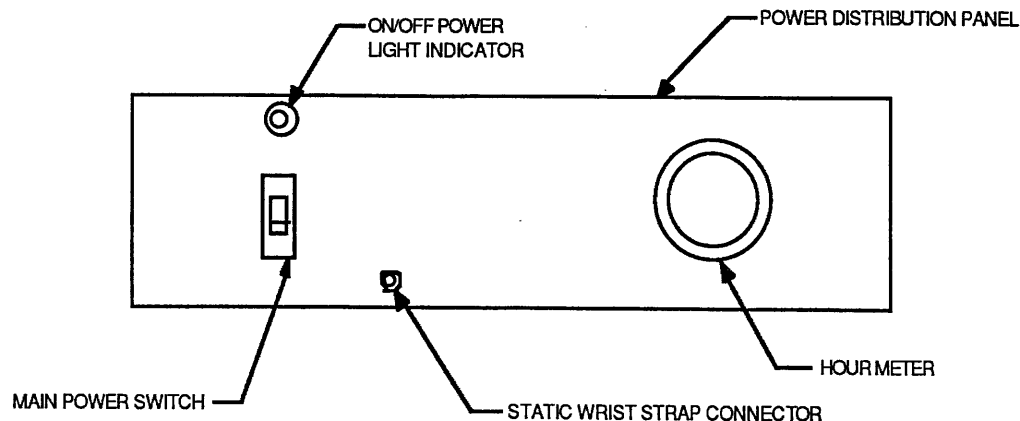

Figure 6.1.1 *Power Distribution Assembly*
- When in physical contact with the CIG and its boards, protect the CIG from damage due to electrostatic discharge (ESD). Always wear a static protective wrist strap that is connected to the CIG with a long cord. (See Figure 6.1.1 and refer to Section 6.1.2.)